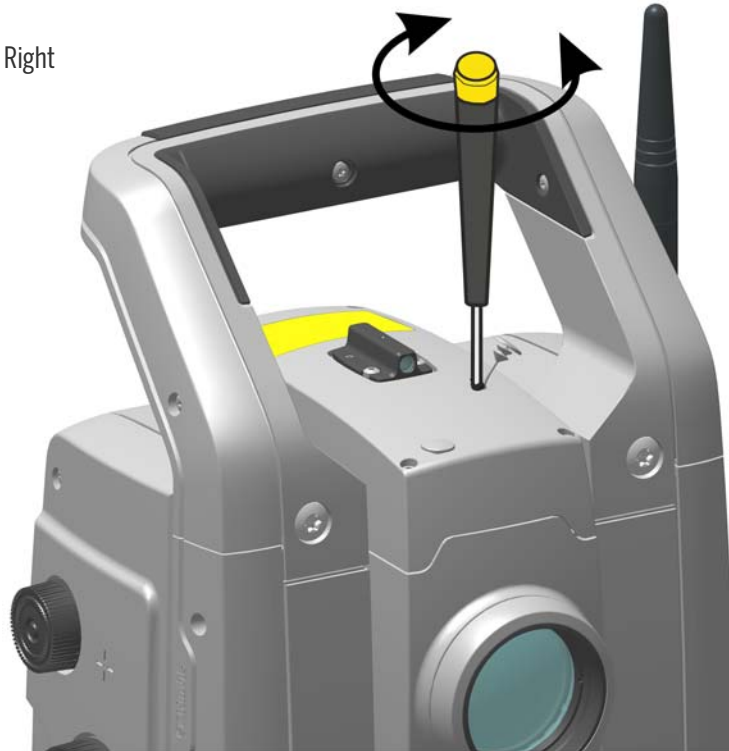

Figure 3.8 Laser pointer Horizontal position adjustment
3. To correct the horizontal position of the laser spot, insert the Allen key into the horizontal adjustment port and turn it as shown in Figure 3.8.